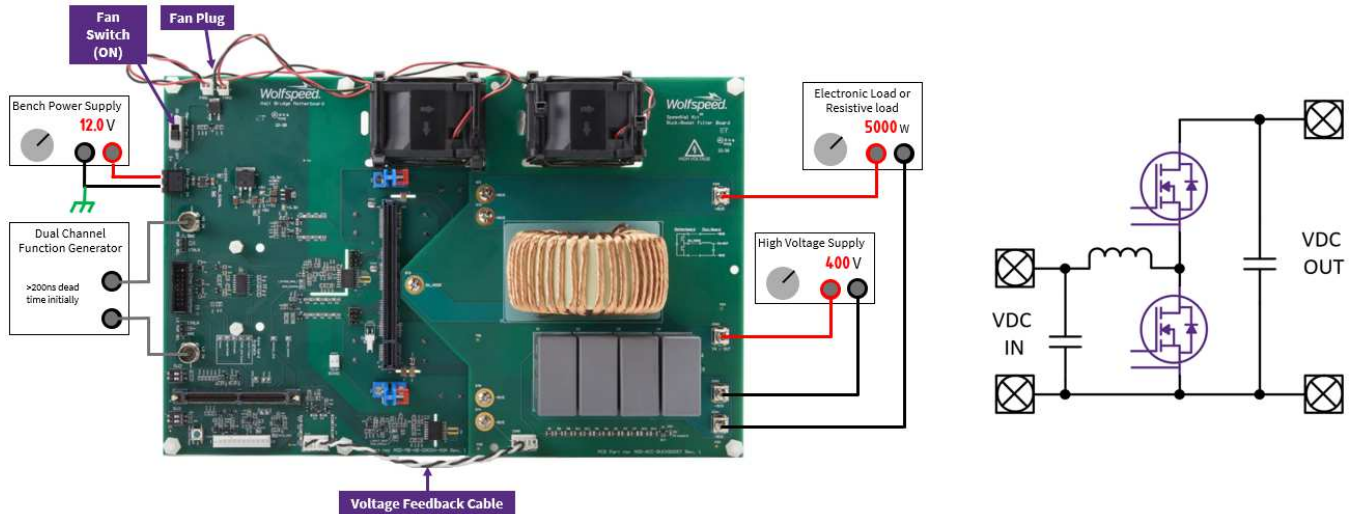

Figure 51: Connection Diagram for Synchronous Boost Converter
- Connect buck/boost filter board to the motherboard using the 5 screws and terminal nuts on the motherboard (Figure 51).